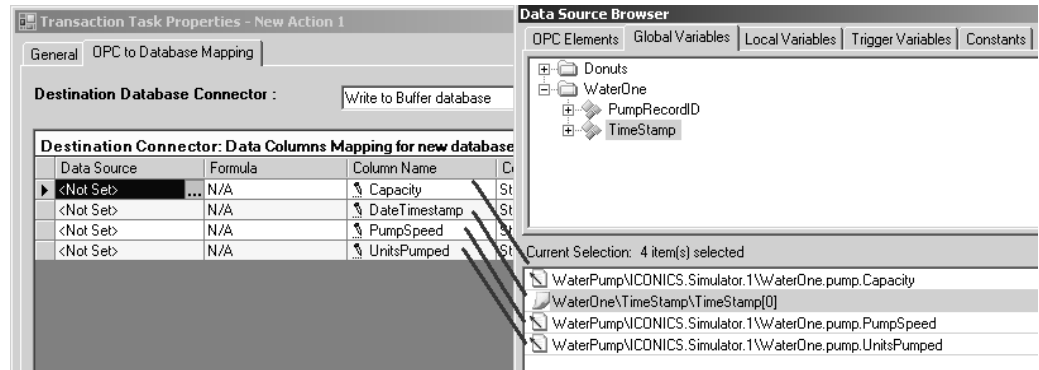

Figure L4.5 - Mapping of data
8. Select **Timestamp** from the Current Selection list and use the **MoveUp** button to make it the second in the list. Move the window so you can check if the order of OPC tags is the same as the column list shown in Figure L4.5.
8. Select **Timestamp** from the Current Selection list and use the **MoveUp** button to make it the second in the list. Move the window so you can check if the order of OPC tags is the same as the column list as shown in Figure L4.5.